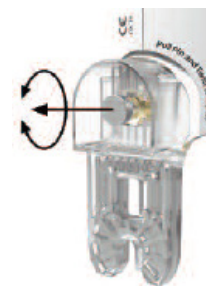

Figure 2
1. Pull out and rotate the locking pin 90 degrees to lock it in the "out" position. (Fig. 2)